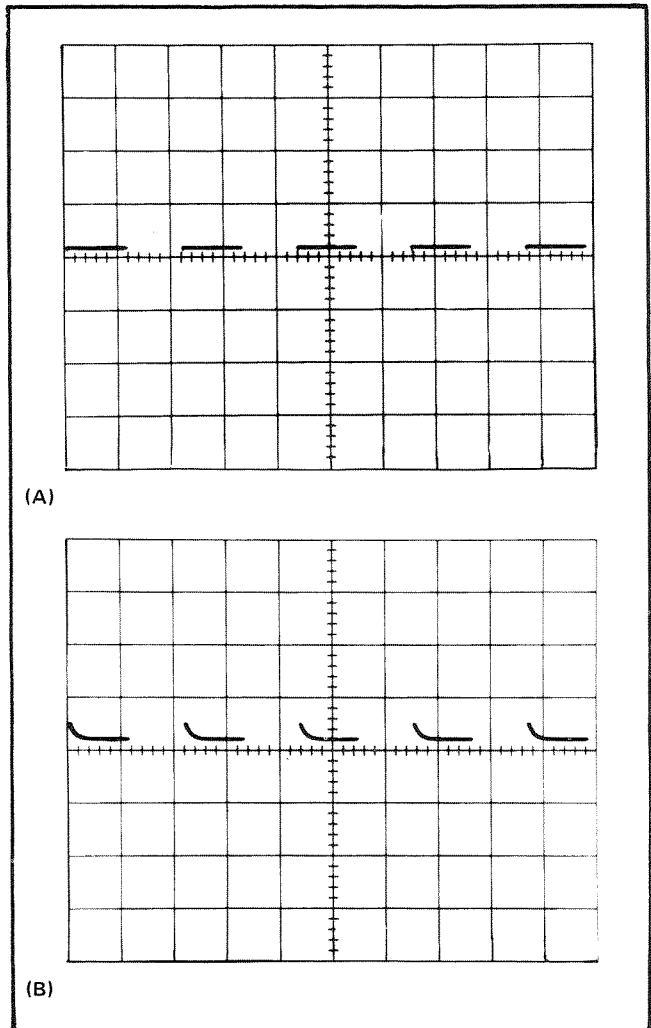

Fig. 5-3. Typical waveform showing (A) Cross neutralization properly adjusted, (B) incorrectly adjusted.
- b. CHECK—The upper leading corner of the waveform, and note any aberration that occurs while switching the -INPUT AC-GND-DC switch from GND to DC. The waveform should appear similar to the one in Fig. 5-3. The aberration should not exceed $\pm 1\%$.
12. Check or Adjust C141 + Cross Neutralization ①
c. CHECK—The lower leading corner of the second cycle of the display and note any aberration that occurs while switching the +INPUT AC-GND-DC switch from GND to DC. The bottom leading corner of the waveform should appear similar to the one shown in Fig. 5-3. The aberration should not exceed $\pm 1\%$.